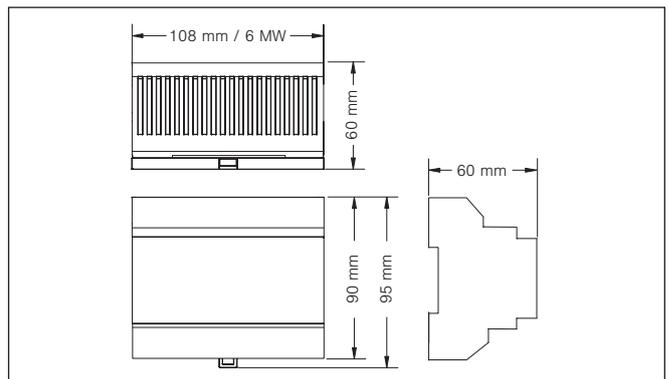
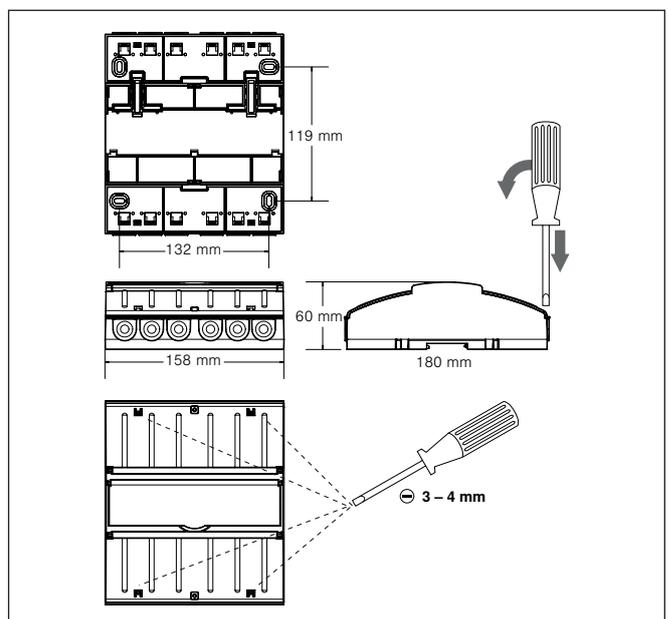

Fig. 3 Dimensions of 6 MW DIN rail-mounted housing for Omnexo Switch actuator 4MDC REG
Fig. 4 Surface-type housing dimensions
- AP: Insert a slotted screwdriver (3–4 mm blade) into the appropriate cover opening (see Fig. 4) and carefully pry the hinged cover open. Repeat the procedure for the second opening of the cover. After both latches have been unlatched, the cover can be flipped open. Open the second cover in the same way. Alternatively, the AP variant may also be mounted on a DIN rail (TH 35-15). This device type is not suitable for use in damp locations.
| Dimensions  | see Fig. 3 and Fig. 4   |      |   |          |